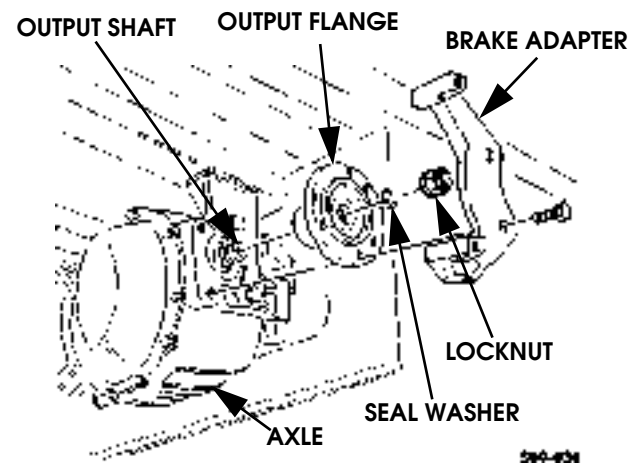

Figure 9-141: Brake Adapter and Output Flange Replacement
2. Remove locknut, seal washer, and output flange from output shaft. Discard seal washer (Figure 9-141).
4. Apply thread-locking compound to tapped holes of axle and install brake adapter on axle with two bolts. Tighten bolts to 110-139 lb-ft (149-189 N•m) (Figure 9-141).